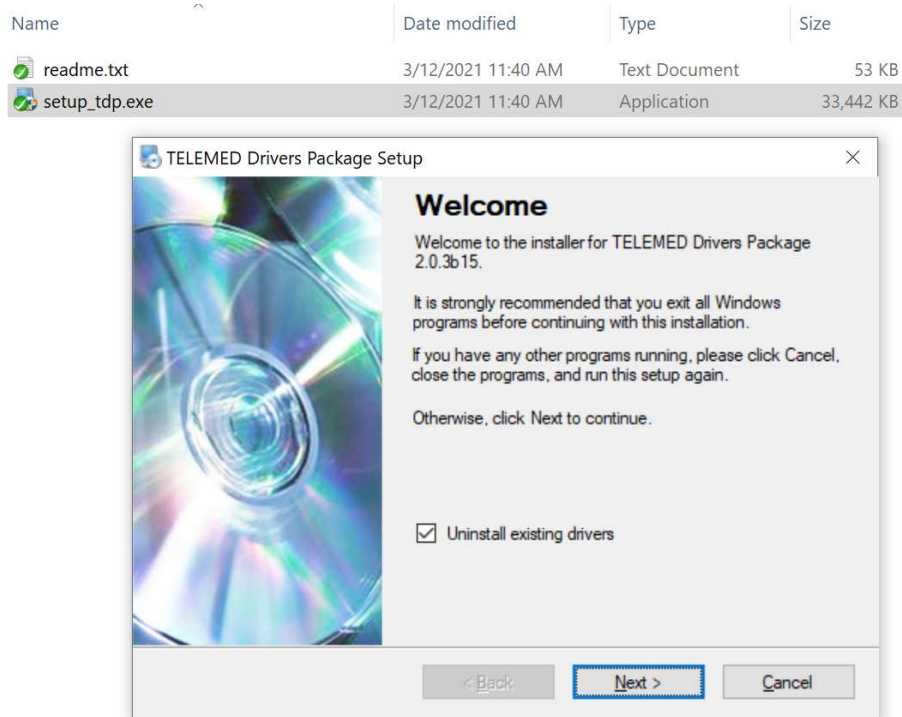

Figure 20: Install base ArtUs driver
6. Install the 32-bit Telemed software and the 64-bit EchoWave II software found in MolecuUS Software Package \ArtUs\EchoWave\EchoWave2\ using setup\_ew2.exe and setup\_ew2x64.exe Figure 20. Reboot the PC.